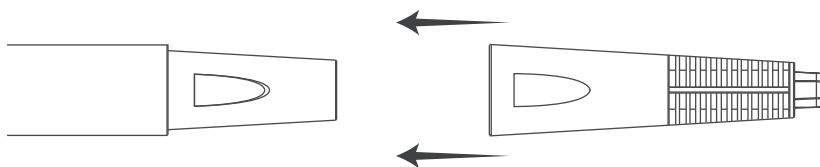

Figure 04
3. Press down on the purple "lock/release" button (FIGURE 04). While continuing to hold the button down, slide the accessory onto the Main Nozzle (FIGURE 04) until you hear and feel the release button click into place.